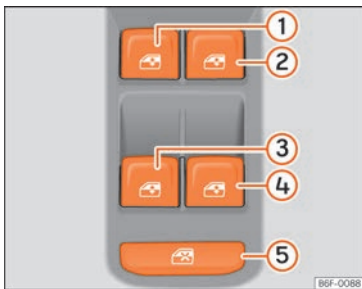

Fig. 84 Detail of the driver door: controls for the windows.
The safety control >>> Fig. 84 ⑤ on the driver door can be used to disable the electric window buttons on the rear doors.